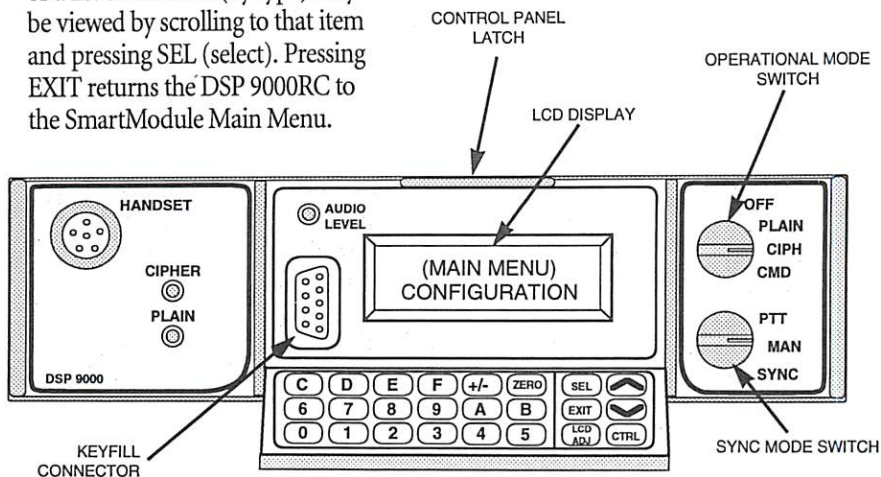

Figure 2. DSP 9000RC (with hatch open)
4. Place the **OPERATIONAL MODE** switch on the DSP 9000RC to the **CMD** (Command Mode) position (see Figure 2) and follow the user specific, configuration set-up instructions
1. Set the **OPERATIONAL MODE** switch to **PLAIN** (see Figure 2).
1. Press the Control Panel Latch and open the DSP 9000RC Control Panel Hatch (see Figure 2).